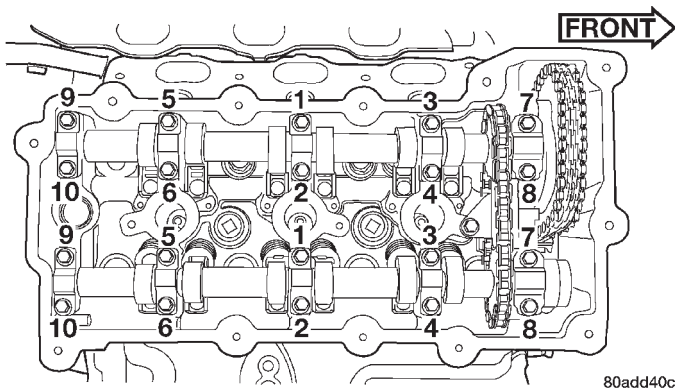

Fig. 36 Camshaft Bearing Cap Tightening Sequence INSTALLATION
- (3) Slowly loosen camshaft bearing cap bolts in reverse order of installation (Fig. 36).
- (4) Remove camshaft bearing caps.
- (5) Remove camshafts, secondary chain, and tensioner together as an assembly.
- (6) Remove tensioner and camshaft chain from camshafts.
- (7) Inspect camshafts. Refer to Cleaning and Inspection in the Section.
(8) Tighten cam bearing cap bolts gradually in sequence shown in (Fig. 36) to 12 N·m (105 in. lbs.).
(9) Install secondary chain tensioner bolts and tighten to 12 N·m (105 in. lbs.).
(10) Remove locking pin from secondary tensioners.